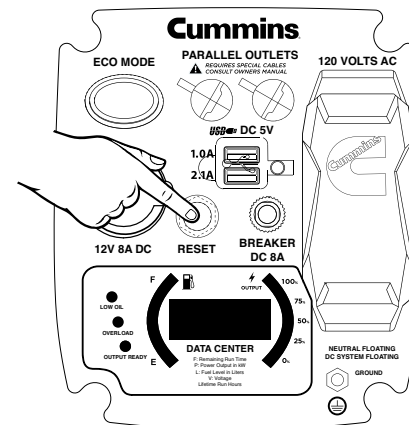

Figure 11: Press the reset breaker
3. Press in the reset breaker to reset it (see Figure 11).